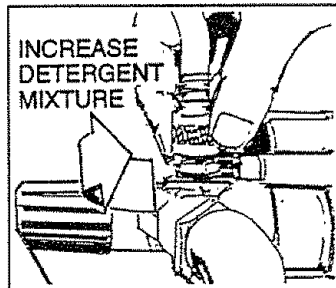

FIG. 15
- Adjust the concentration of detergent by turning the knob on the detergent injector (Fig. 15).